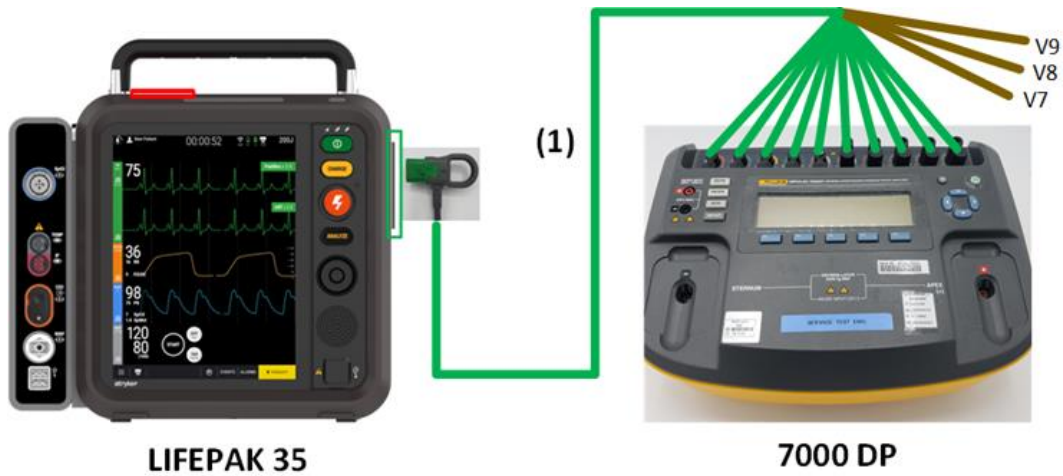

Figure 10
2. Establish the 10-Wire ECG Tests setup as shown in the following Figure 10:
(Item 1 in Figure 10: 11111-000036, 11111-000037
1. Establish the 10-Wire ECG Tests setup as shown in the figure 10 above.